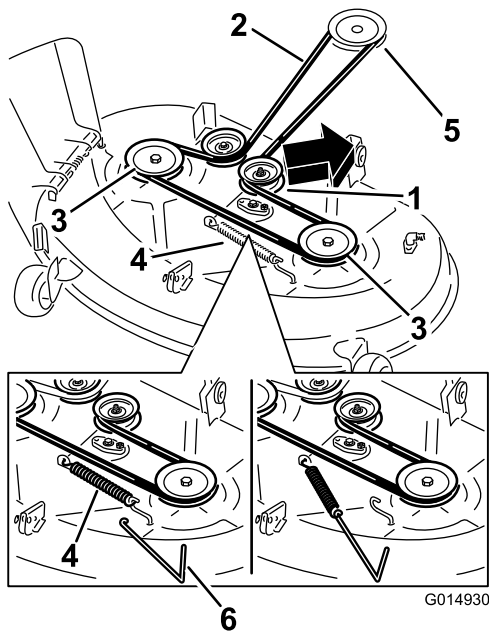
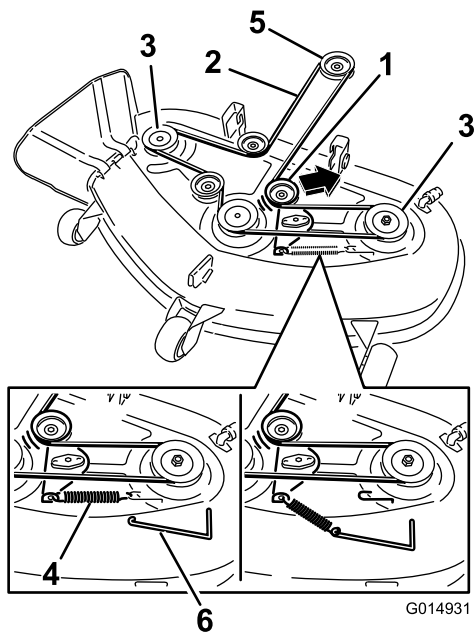

Figure 56
Figure 57
5. Using a spring-removal tool, (Toro Part No. 92-5771), remove the idler spring from the deck hook to remove tension on the idler pulley, and roll the belt off the pulleys (Figure 56 and Figure 57).
- Route the new belt around the engine pulley and mower pulleys (Figure 57).
- Using a spring-removal tool, install the idler spring over the deck hook, and place tension on the idler pulley and mower belt (Figure 56 and Figure 57).